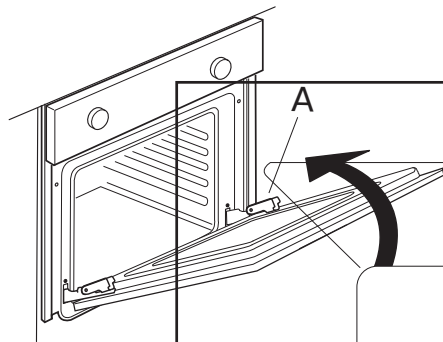

Fig. 2
2. After insertion, the shelf is in the locking position "B" (Fig. 2).
3. Close the door as far as it will go (A), lift it up (B) and turn it (C) until it is released (D) (Fig. 2, 3, 4).